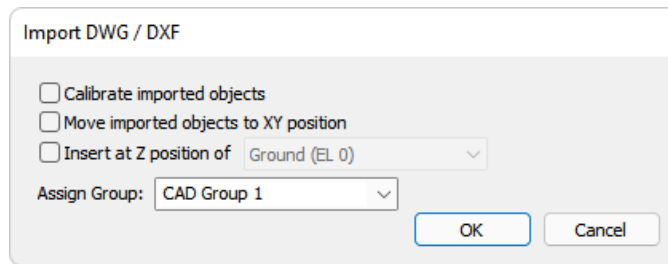

FIGURE 5-2
- Click on the **Open** button, this will open the *Import DWG/DXF* window shown in **FIGURE 5-2**.